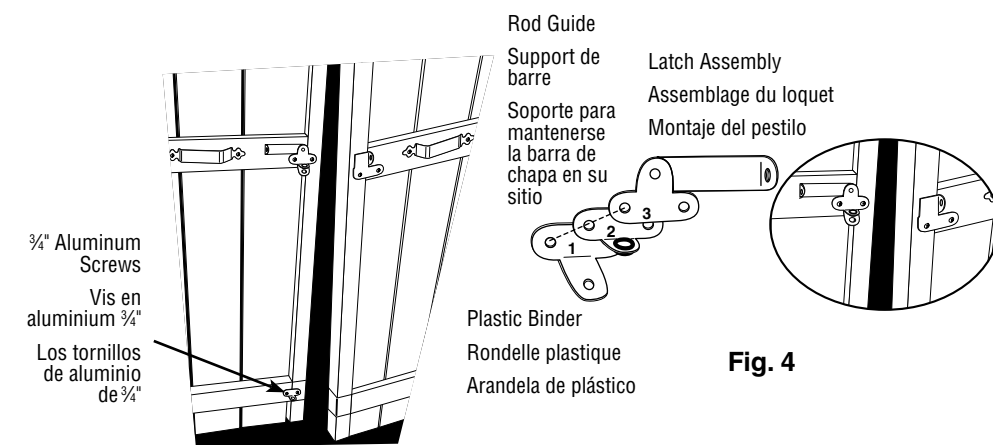

Fig. 3
- 2.) Sur le côté externe de la traverse inférieure, attacher le second support de barre (fig.3).
- 2.) Sujete el segundo soporte para la barra de chapa al borde exterior del travesaño exterior (fig.3).
- 1.) Assemble and Install Latch Assembly, Rod Guide and Plastic Binder 35" up from the driveway surface on the first board of the left panel with 3/4" Aluminum Screws (Fig. 3).
- 2.) Install 2nd Rod Guide just above bottom rail and level with the top with 3/4" Aluminum Screws (Fig. 3).